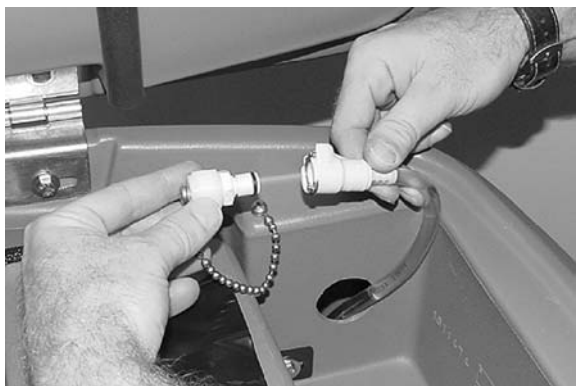

FIG. 53
11. FaST Model: Connect the FaST-PAK supply hose to the storage plug when not in use (Figure 53). Remove any dried concentrate from the hose connector by soaking it in warm water.